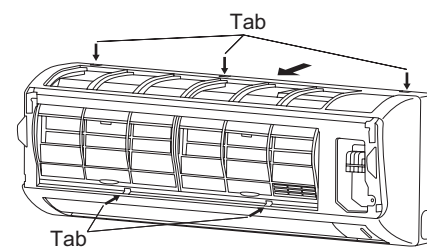

Fig. 2-201
- (3) Press the 3 tabs at the top of the grille and the 3 tabs on the front face to separate the grille from the frame. (Fig. 2-201)
- (4) Pull the grille toward you to remove it.